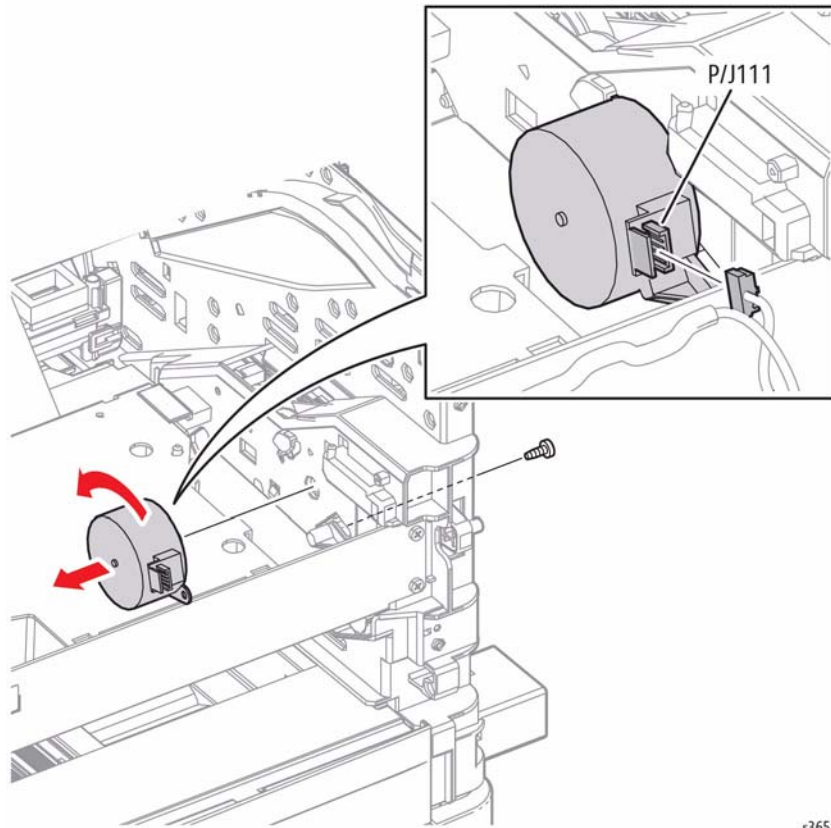

Figure 4 Remove the Toner Dispense Motor
10. Refer to Figure 4 to locate and remove 1 screw (silver, tapping, 8mm) that secures the motor.